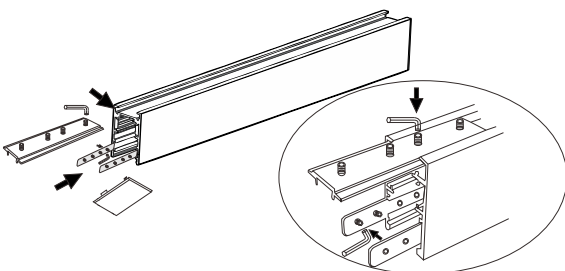

Figure3.1
1. First take out the end cover of one end of the track, load the magnetic track connecting fixed bolts, and fix the bolts on both sides with an internal six-pin spanner; The back slot is mounted on the fixed metal plate with linear splice, and the screws are fixed with an internal six-pin spanner. (Figure 3.1)